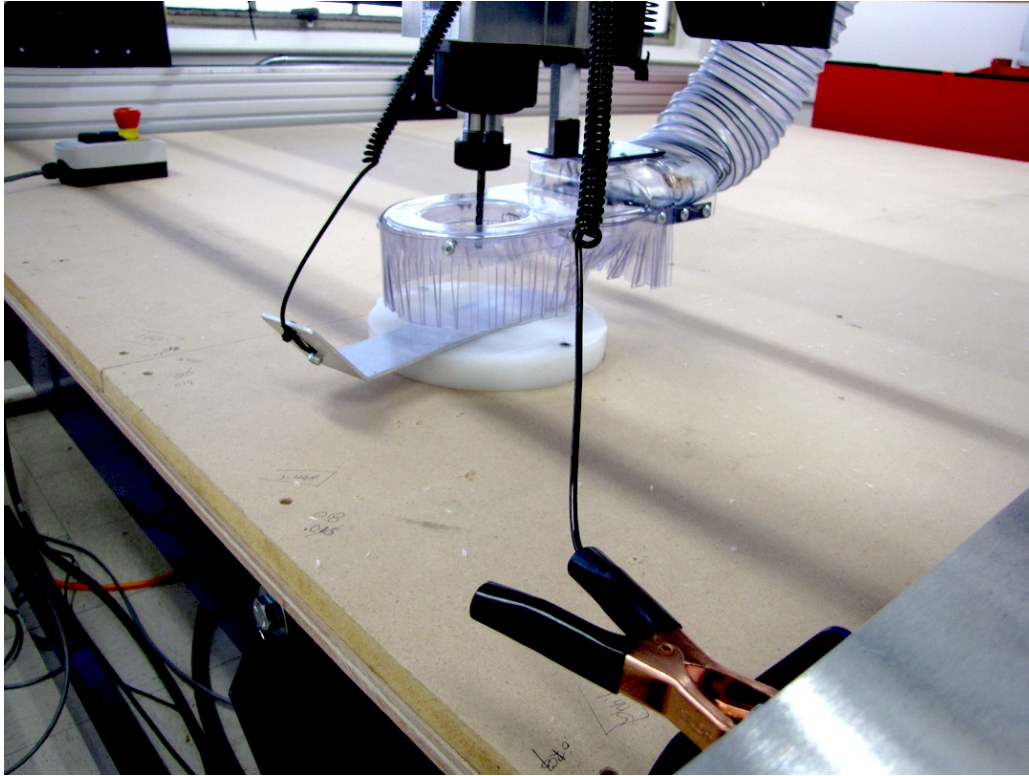

Figure 23: Zero Z Axis with Z Plate
28. Once you have your **SPINDLE** at some position, take the aluminum plate out of the side pocket next to the **SPINDLE** assembly. Place this plate on the **FINAL LAYER**, **DIRECTLY** underneath the **ENDMILL** (Figure 23).
29. Establish a good electrical ground between the **COPPER PLYER** and a metal surface preferably on the frame of the ShopBot, such that both **PLYER** and **METAL** surface make contact (Figure 23).